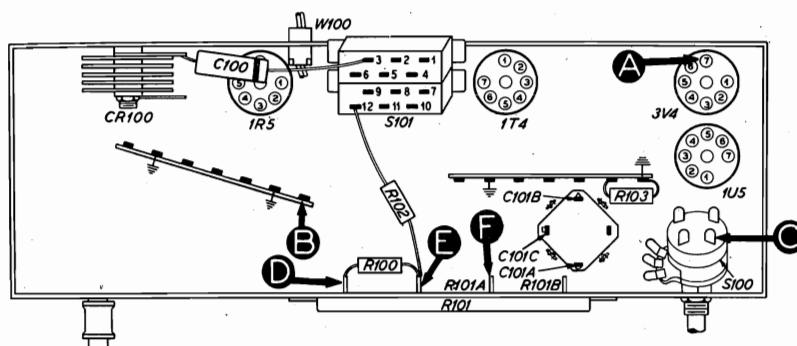

Figure 1. Bottom View, Showing Section 1 Test Points
3. Measure the resistance between B+ (output of selenium rectifier), test point D, and B—, test point B. See figure 1. When the ohmmeter leads are connected in the proper polarity, the highest resistance reading will be obtained. If the reading is lower than 2000 ohms, check condensers C101A and C101B for leakage or shorts.